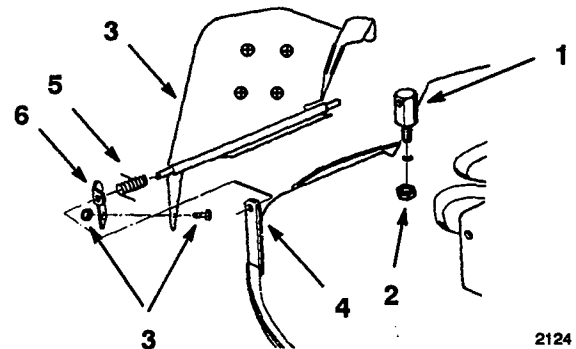

Figure 1
1. Remove lock nut, under mower, and remove rear stand-off from mower (Fig. 1). Slide rod out of front stand-off and remove old deflector.
2. Transfer spring and retainer from old deflector to new deflector. Secure with bolt and nut (Fig. 1).
3. Slide rod, from new deflector assembly into front stand-off (Fig. 1).
4. Slide rear stand-off onto rod and into mower. Secure rear stand-off to mower with lock nut (Fig. 1).